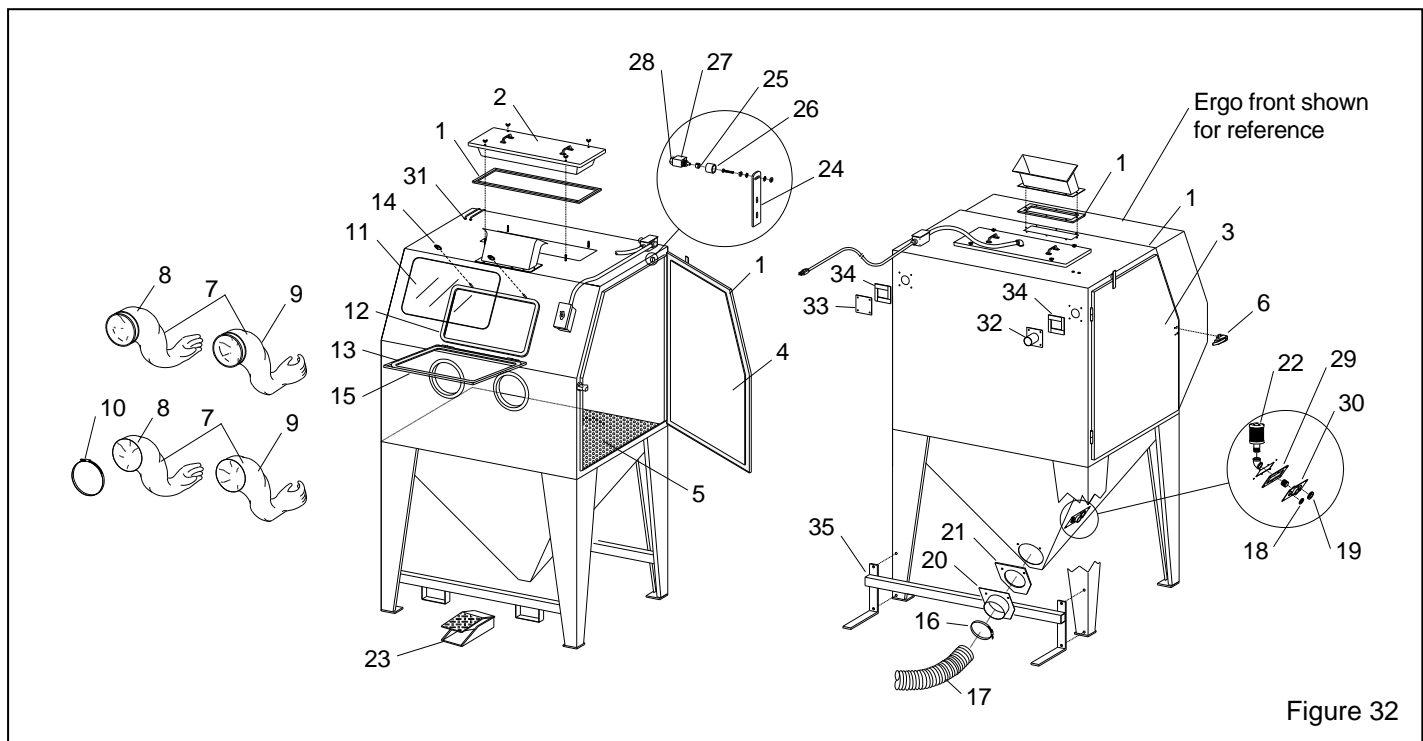

Figure 32
10.2 Cabinet Replacement Parts – Figure 32